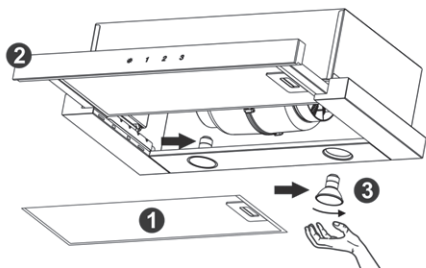

Fig. 6
8.6 To remove the aluminium filter (Fig. 6), press the spring lock of the aluminium filter 1 and remove it. Extract the pull-out panel with filter 2 and remove the aluminium filter 3. The filter installation is performed in reverse order. Do not install the filter after washing until it is completely dry.